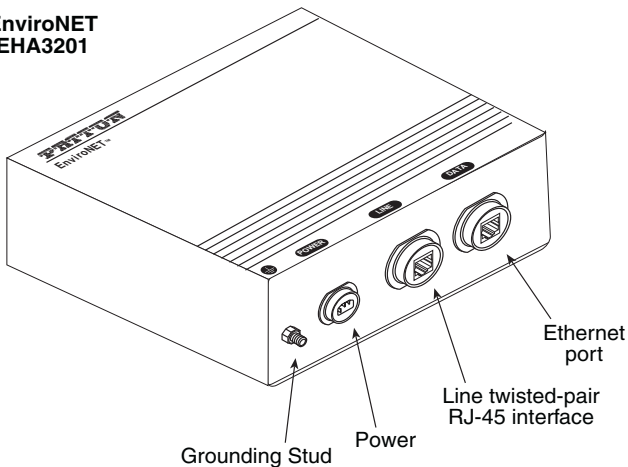

Figure 1. EHA3201 Bottom Panel
Note See **figure 1** for the EHA3201 unit's bottom panel arrangements.
2. Install the grounding wire between the grounding stud (see Figure 1 on page 3) and the grounding source.